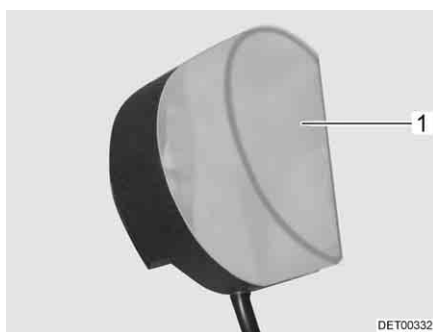

Fig. 272 Wardrobe light
- Press the light covering (Fig. 272,1) lightly together and remove it.